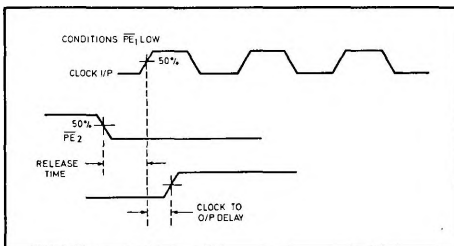

Fig. 4 Release timing diagram
- Release time is defined as the minimum time that can elapse between a H \rightarrow L transition of a control input and the next L \rightarrow H clock pulse to ensure that the $\bar{1}$ 1 mode is forced by that clock pulse (see Fig. 4).